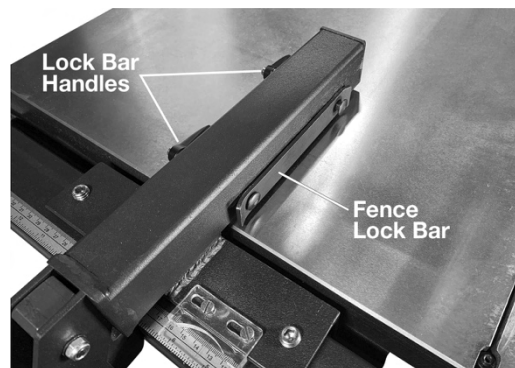

Figure 5-22
4. Loosen the fence lock bar by turning the lock bar handles (see Figure 5-22)